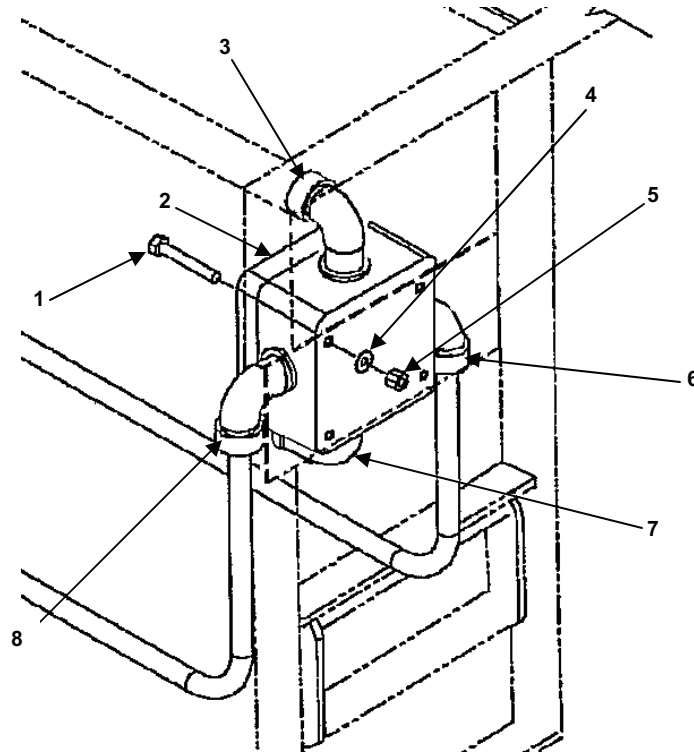

Figure 2. HP Module Junction Box Assembly.
4. Remove high-pressure switch conduit from hub (Figure 2, item 6).
5. Remove low-pressure switch conduit from hub (Figure 2, item 3).
6. Remove emergency shutoff switch conduit from hub (Figure 2, item 7).
7. Remove control panel cable from hub (Figure 2, item 8).
8. Remove four (4) screws (Figure 2, item 1), nuts (Figure 2, item 5), and washers (Figure 2, item 4) from junction box (Figure 2, item 2).